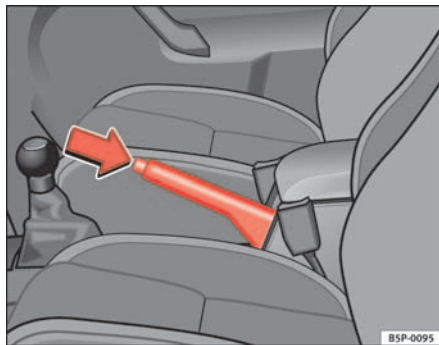

Fig. 140 Handbrake between the front seats
- Pull the handbrake lever up firmly ⇒ **fig. 140**.
- Pull the lever up slightly and press the locking knob in the direction of the arrow ⇒ **fig. 140** and guide the handbrake lever down fully ⇒